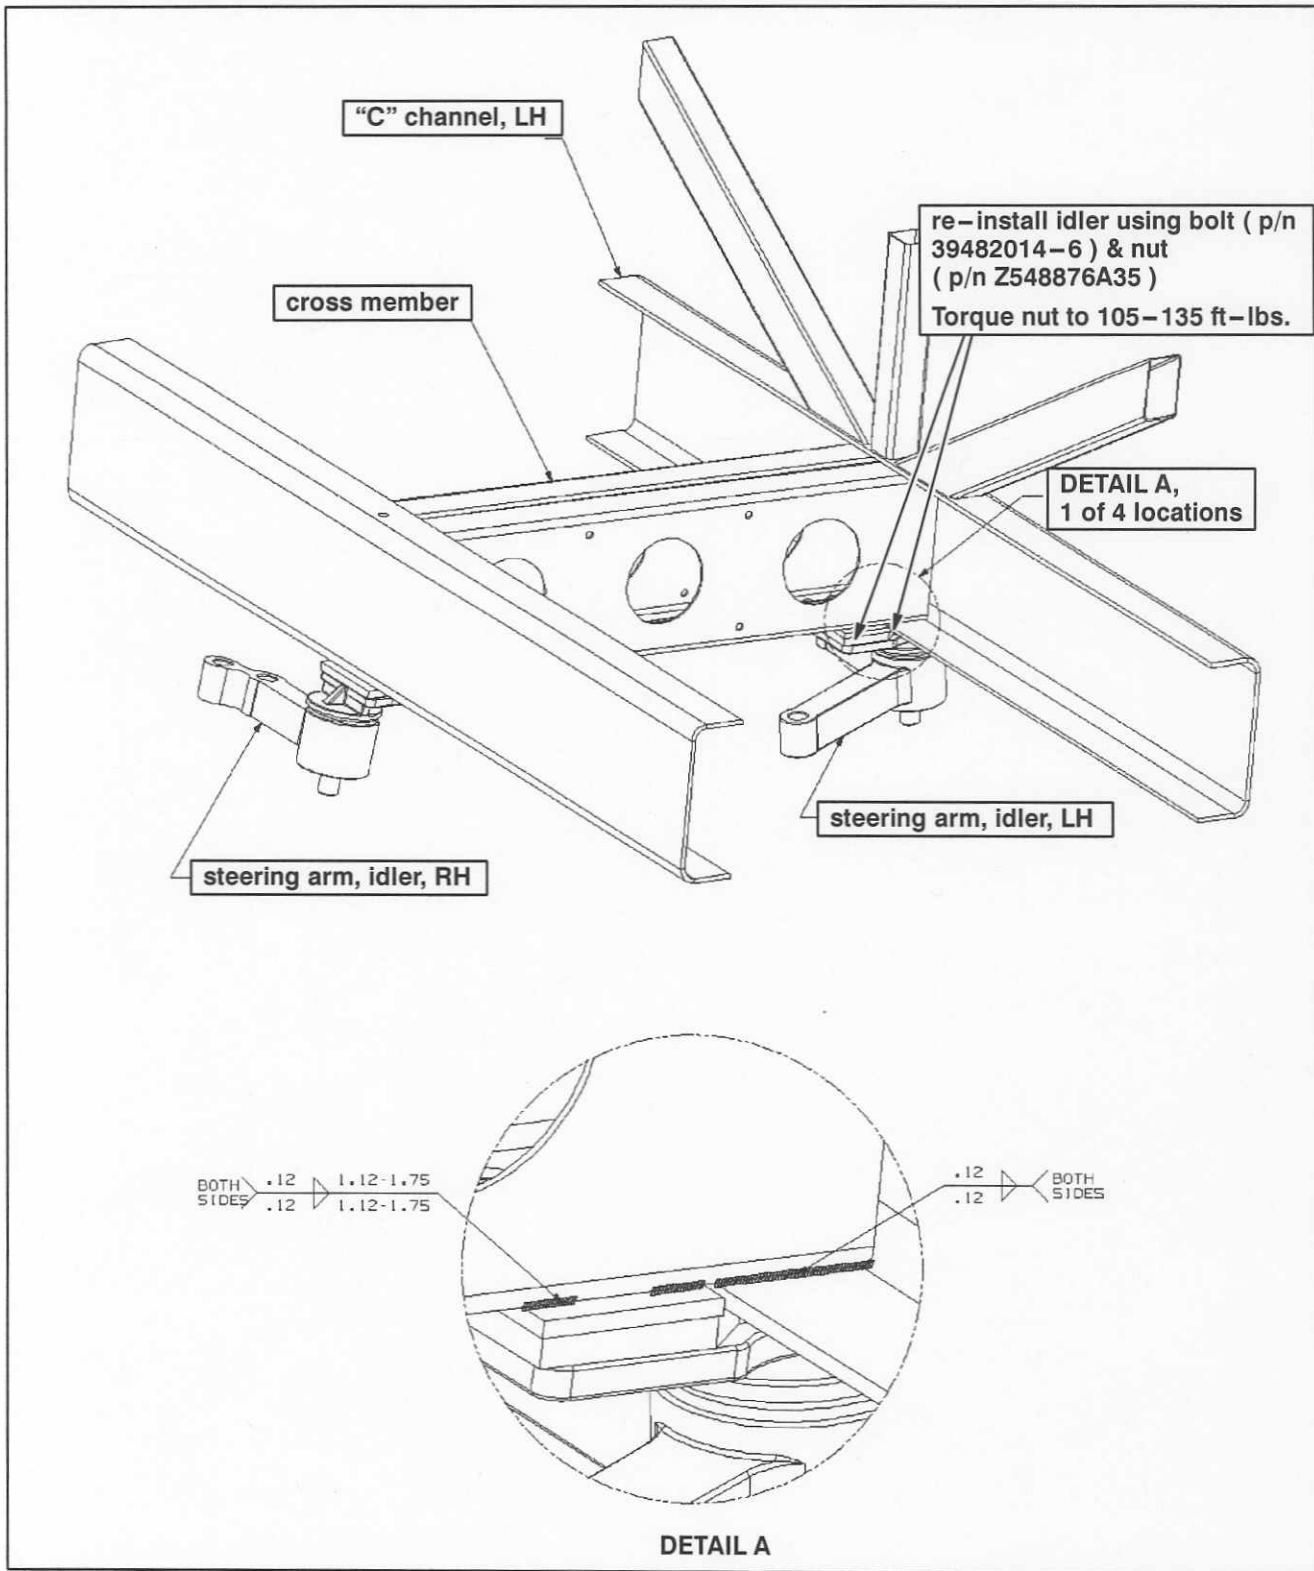

Figure 2. Top view of front bogie. Inspection required of four locations.
2. Locate the steering arm idler brackets on the curbside and roadside of the front axle (refer to Figure 2).
6. Inspect the four weld areas shown in Figure 2 / Detail A and the two weld areas shown in Figure 3 / Detail B.
7. If a crack is present, at the location shown in Figures 2 and 3: